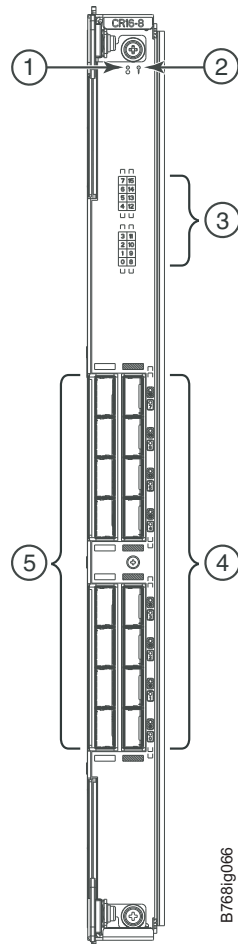

Figure 23. Core switch blade (CR16-8), LEDs and QSFP connectors
1. Check the LED indicators on the core switch blade (Figure 23). The LED patterns may temporarily change during POST and other diagnostic tests; for information about how to interpret the LED patterns, see Table 8.
Figure 23 identifies the core switch blade and its components